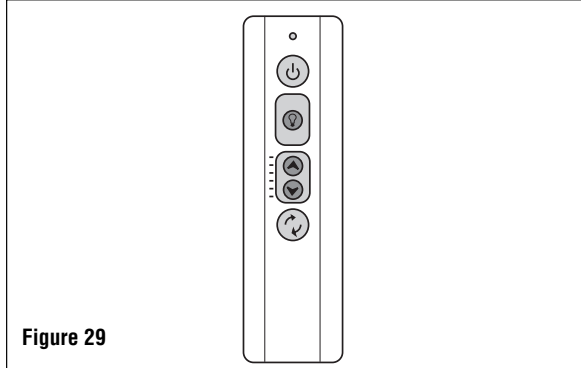

Figure 29
Your remote control has code switches which must be set in one of 32 possible code combinations (Figure 29). The five levers (numbered 1, 2, 3, 4, and 5) on the switches are factory-set in the ON (up) position. Change the switch settings as follows (Figure 29):
4. To vary the intensity of the light, hold the (⏴) button down until the desired light intensity is reached, then release the button. The remote dimmer code must be set to "D" to use the dimming features (Figure 29).